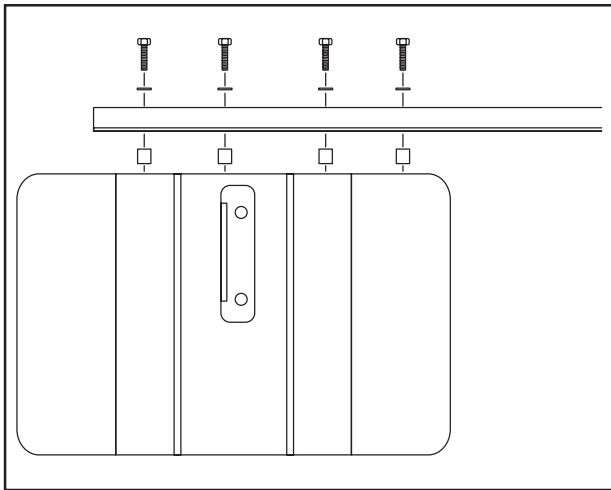

Figure 9. Rear rail attachment procedure.
2. Attach the rear rail (the shorter of the two rails) to the table top using the spacers, hex bolts and lock washers supplied, as shown in **Figure 9**. Use an adjustable square set to $1\frac{5}{32}$ " to measure the rail so it is consistently $1\frac{5}{32}$ " below the top of the table.